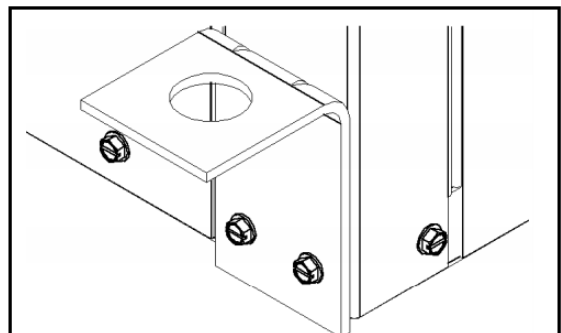

Fig. 5 — Mounting Brackets
2. Mount 4 brackets to unit corner post using the bolts provided in the kit, as shown in Fig. 5. DO NOT re-use the screws removed from the unit during Step 1 to mount the hanging brackets on the unit.